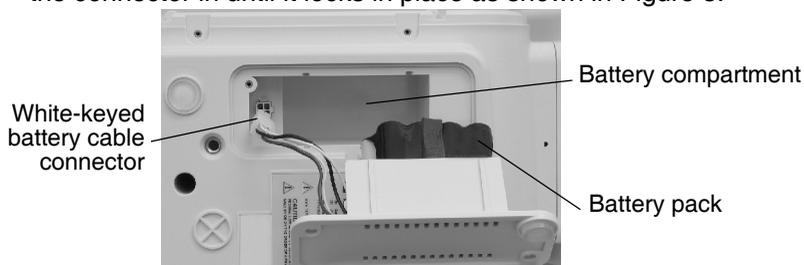

Figure 3: Connect the battery cable connector to the keyed slot.
3. Remove the battery pack. Connect the battery by plugging the white-keyed battery cable connector into the keyed slot. Push the connector in until it locks in place as shown in Figure 3.